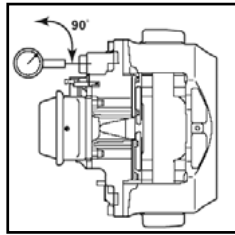

Figure 24
- Attach a dial indicator to the torque plate or axle frame. The dial indicator reading should be taken from a point on the back-side of the caliper housing. (See **Figure 24**.)